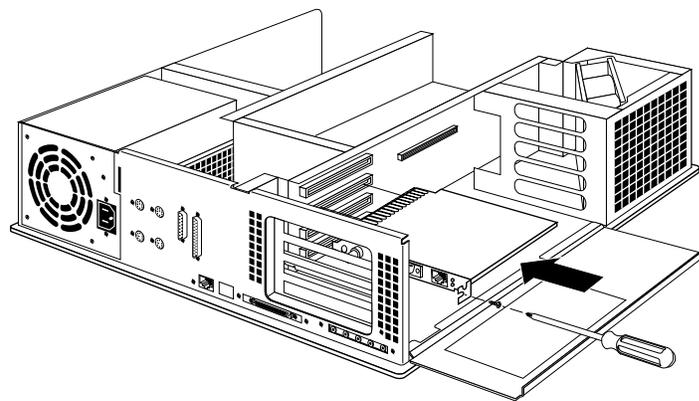

Figure 4 Installing the Flash32 Adapter
- Push the board into the slot until the board is securely connected to the port on the EISA backplane, as shown in Figure 4. If the gold leads on the connector on the board are still visible, push the board further into the port until you can no longer see the gold leads. This ensures the board is secure in the slot.